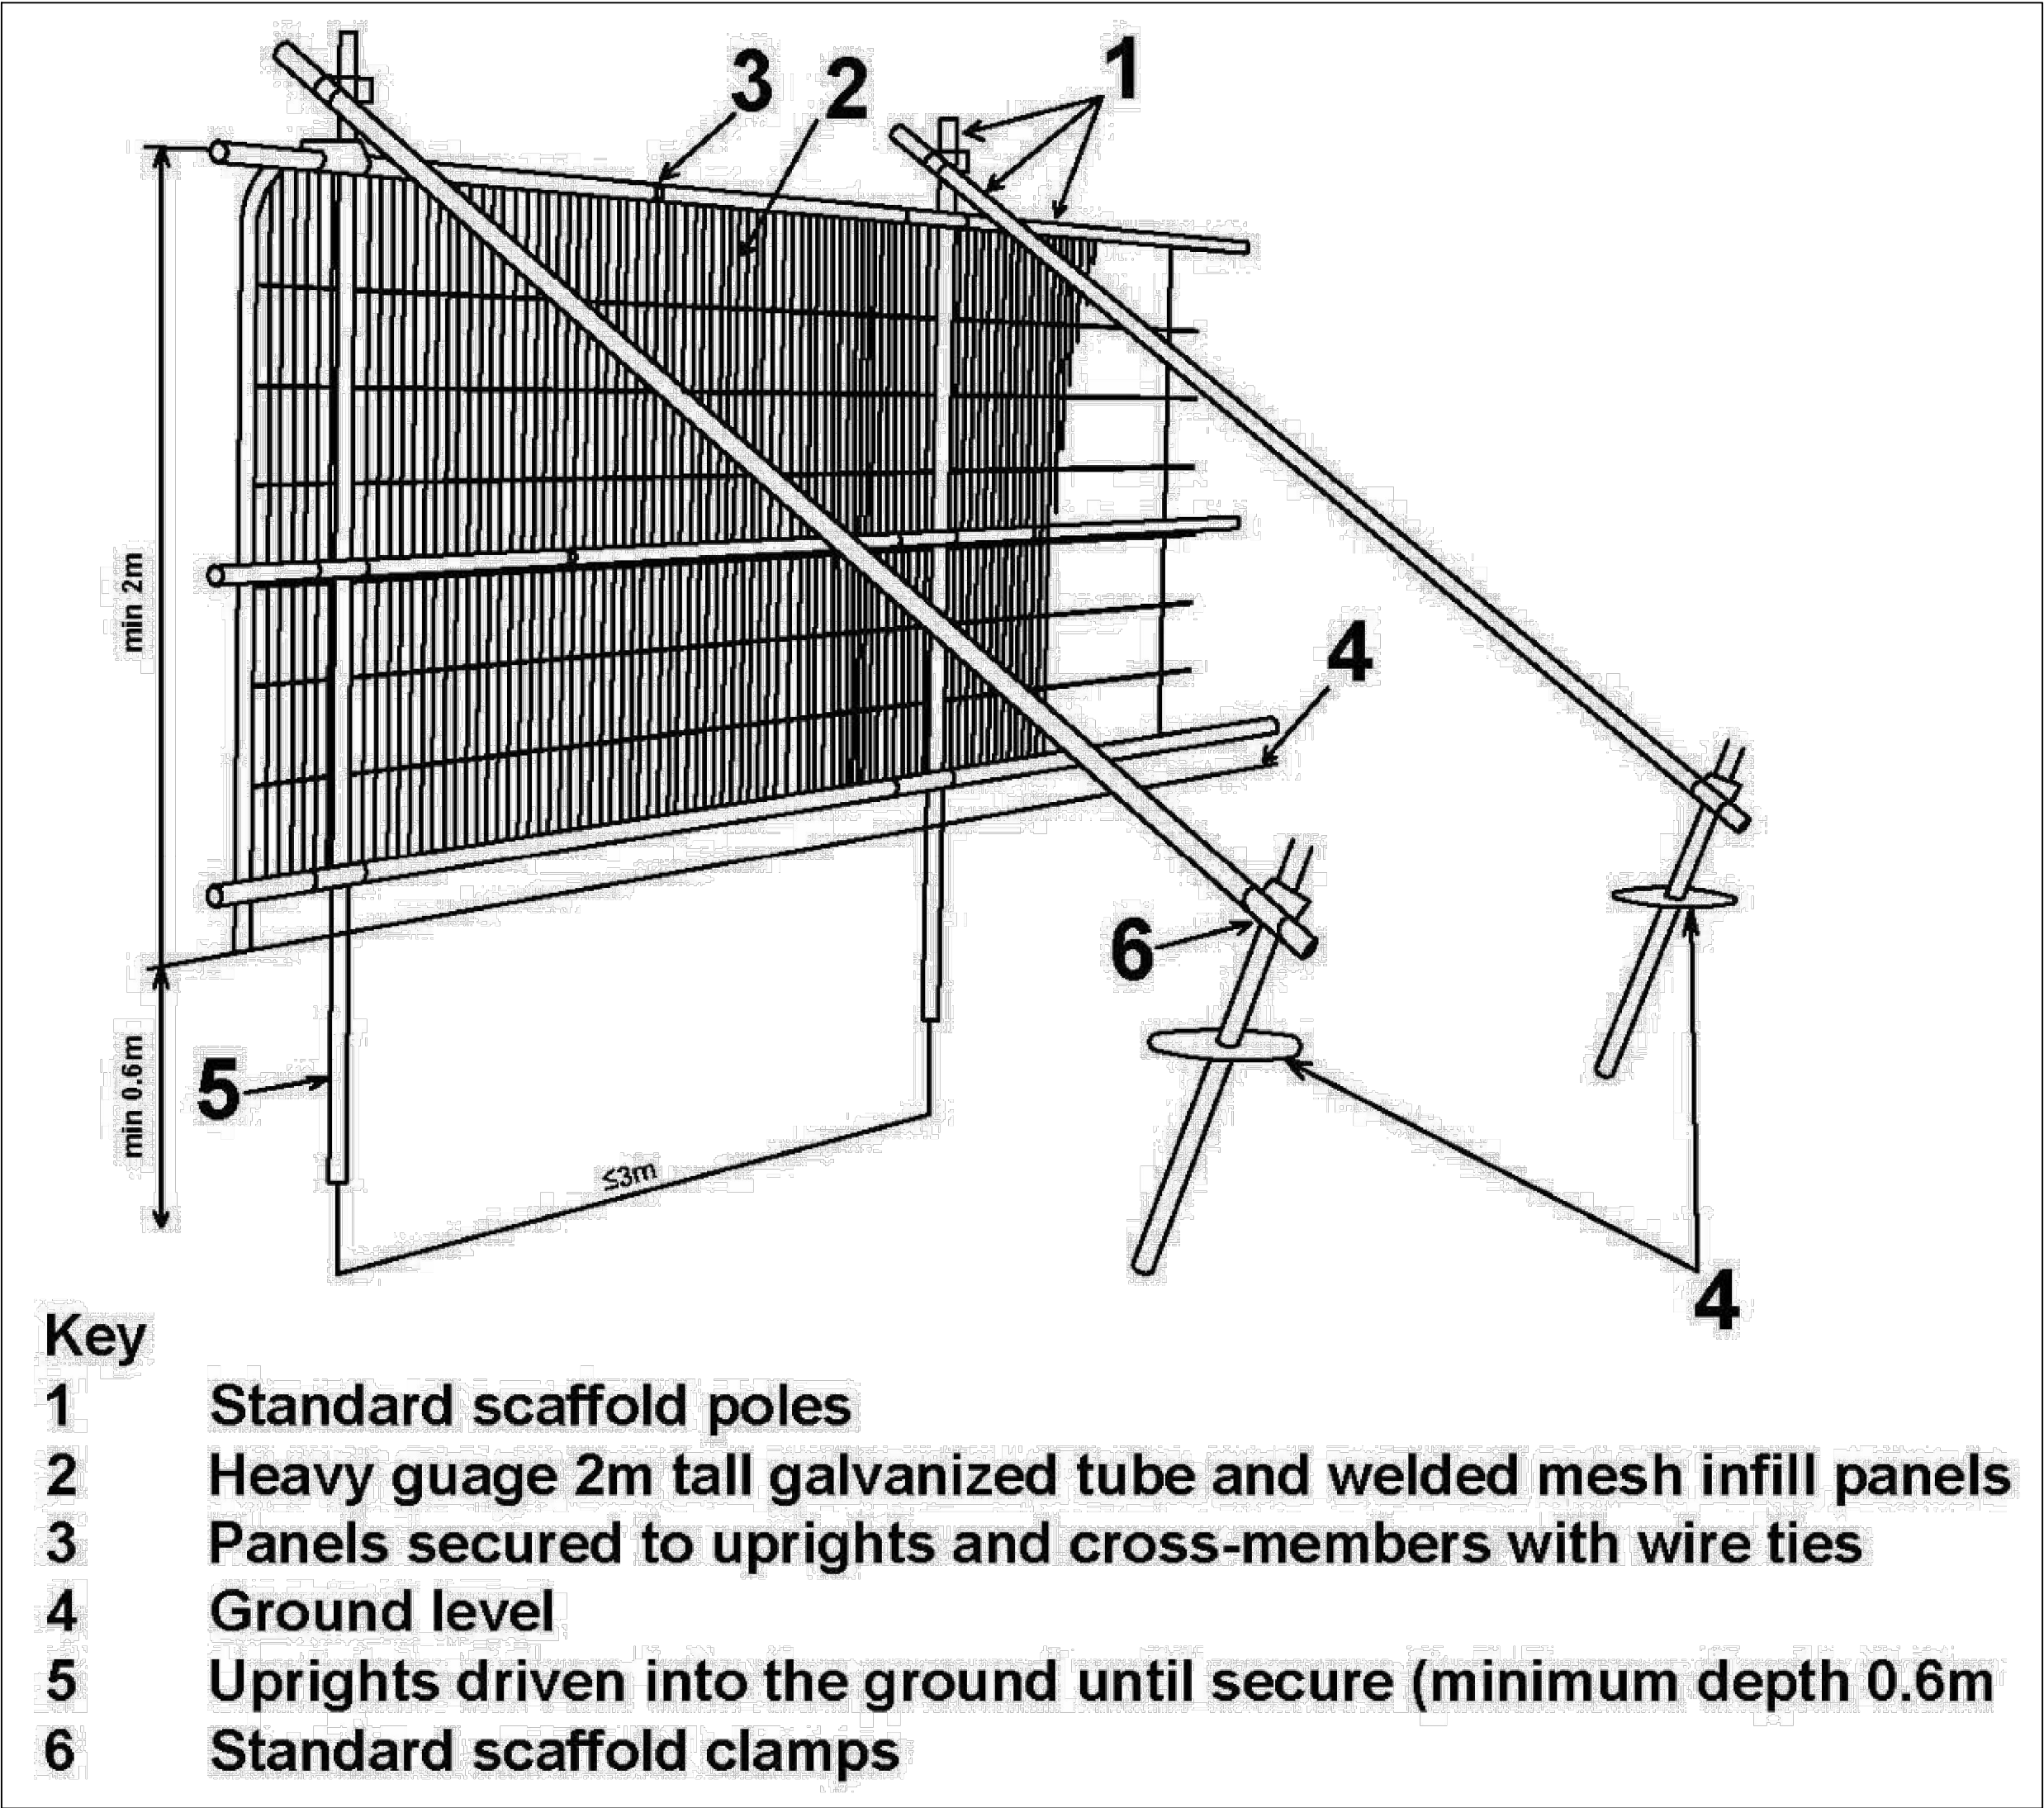

Figure 1 Default specification for protective barrier © British Standards Institute
4. The default specification should consist of a vertical and horizontal scaffold framework, well braced to resist impacts, as illustrated in Figure 1 (see below)